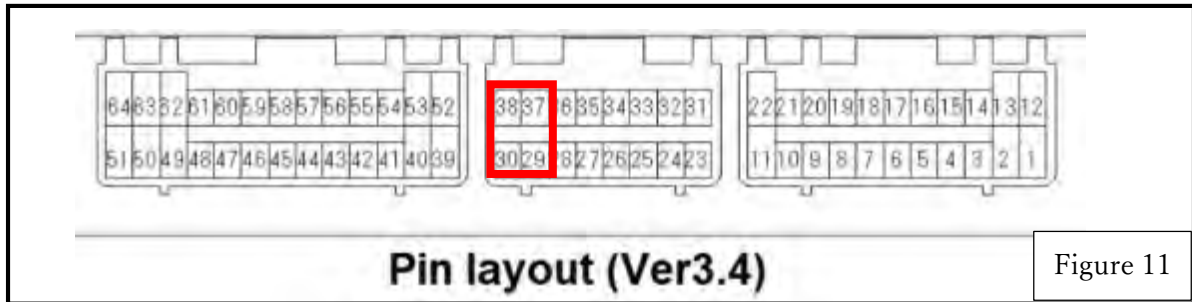

Figure 11
- ② Disconnect the check engine light wiring connected to the genuine ECU, and connect the wiring on the vehicle side to one of the terminals of V Pro's OPT switch output LSH (terminal number 29,30,37,38). Insulate the wiring on the ECU side. (Figure 11)